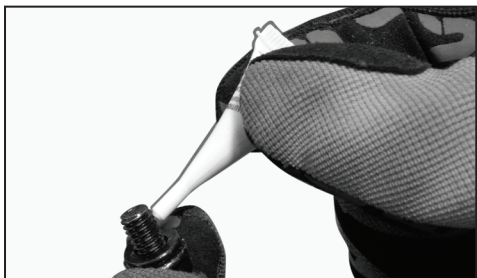

Fig.8
3. Apply the threadlocker to the four supplied 5/16 inch bolts. (Figure 8)